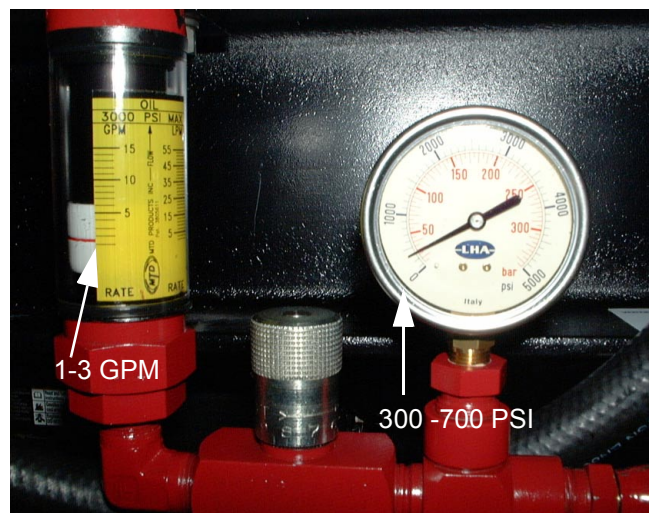

Figure 5
- Continue to close the needle valve slowly until the high volume check valve closes and the engine RPM returns to normal. \_\_\_\_ See Figure 5.